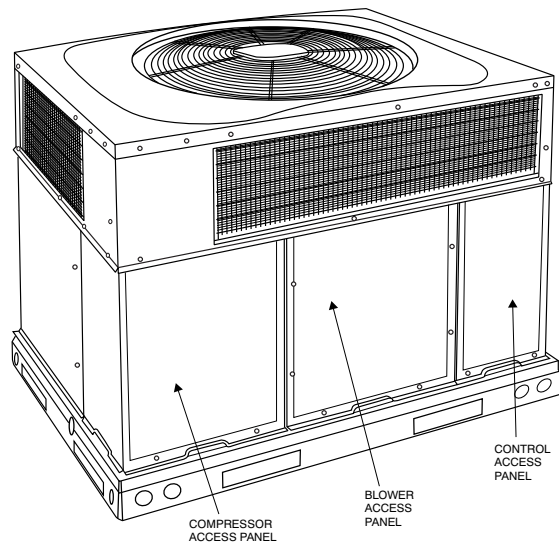

Fig. 22 – Unit Access Panels
- a. Remove blower access panel (see Fig. 22).
- g. Reinstall blower access panel (see Fig. 22).
Remove blower access panel (see Fig. 22). Limit switch is located on the fan partition.
Remove access panels (see Fig. 22) to locate all the electrical controls and wiring. Check all electrical connections for tightness. Tighten all screw connections. If any smoky or burned connections are noticed, disassemble the connection, clean all the parts, re-strip the wire end and reassemble the connection properly and securely.